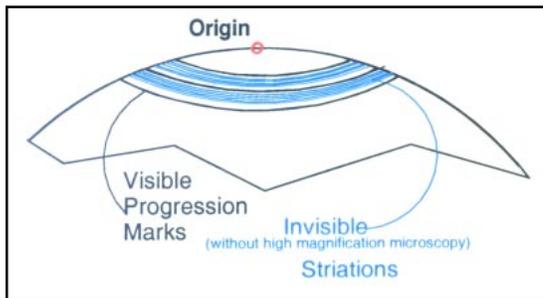
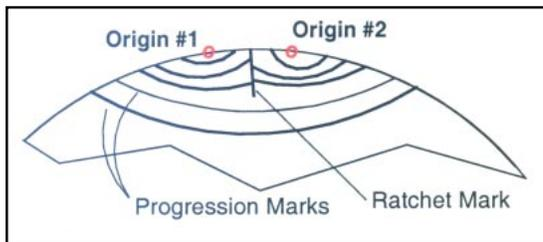

Fig. 2 Progression marks
Fig. 3 Ratchet mark added
*fatigue striations.* Fatigue striations show each stress cycle experienced by the part and are generally visible only under extremely high magnification, while progression marks are visible to the naked eye (Fig. 2). Also, in many alloys, such as austenitic stainless steels, fatigue striations are very difficult to detect, while in others, for example most of the aluminum alloys, striations are relatively easy to find.
There are two other important surface features of fatigue failures that have not been mentioned. The first of these is the *ratchet mark*. In Fig. 3, a ratchet mark indicating the boundary between two adjacent failure planes has been added to Fig. 2. One can see that there are two crack origins, and the ratchet mark is between them. The presence of ratchet marks indicates multiple origins and relatively high total stresses.